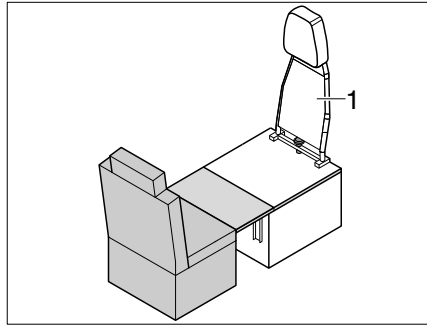

Fig. 225 Driving - sleeping conversion
- Remove the backrest (Fig. 225,1) from the individual seat (see Chapter 7.8.7).